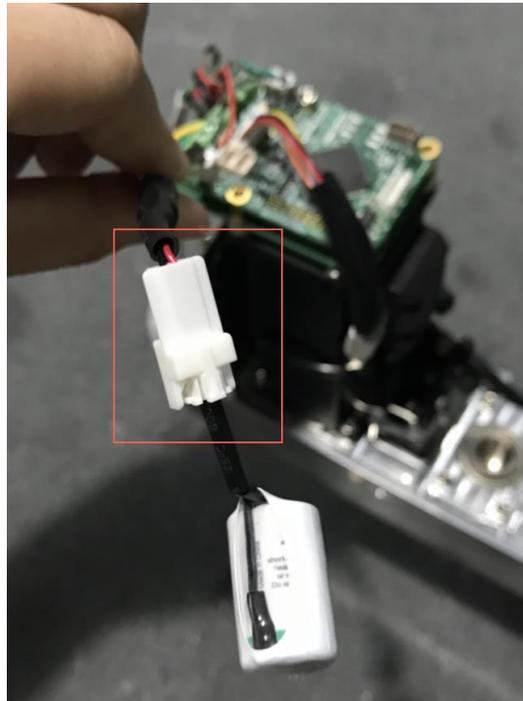

Figure 7.12 Connect the battery to the batter adapter
- Step 6** Connect the connector of the standby battery to the other end of the battery adapter cable, as shown in Figure 7.12.